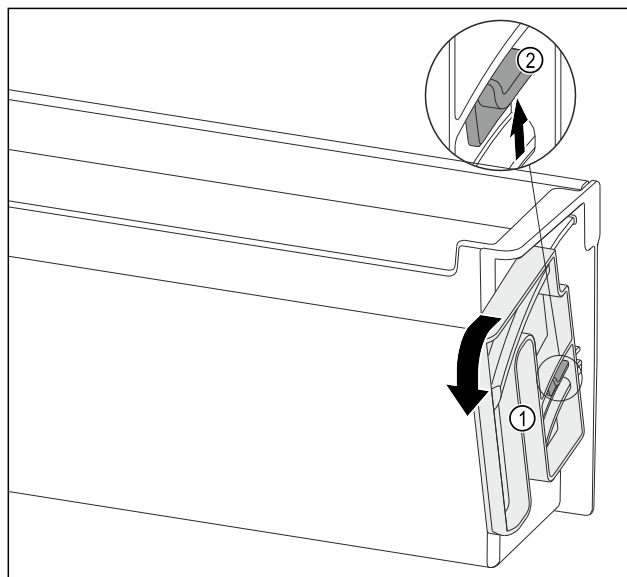

Fig. 134
- Turn the turning unit *Fig. 134 (1)* in the specified direction to the end stop.
- Press the tab *Fig. 134 (2)* up and remove the turning unit *Fig. 134 (1)*.